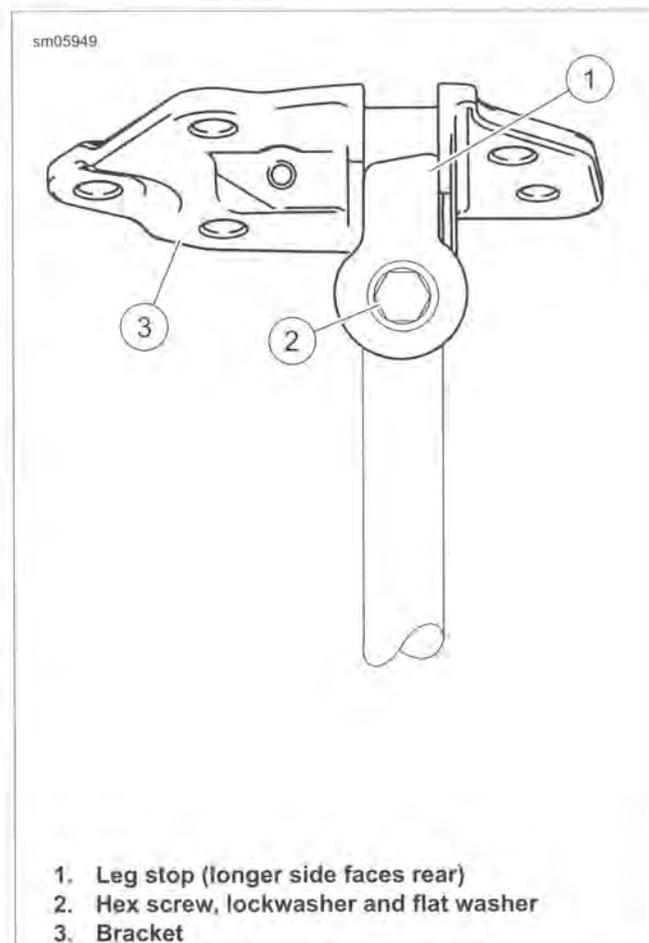

Figure 2-172. Leg Stop Orientation in Full Forward (Down) Position
3. See Figure 2-172. Holding leg at the normal forward (down) position, install stop (1) with the stamped side down. Verify that the longer side of the stop faces the rear of the motorcycle.